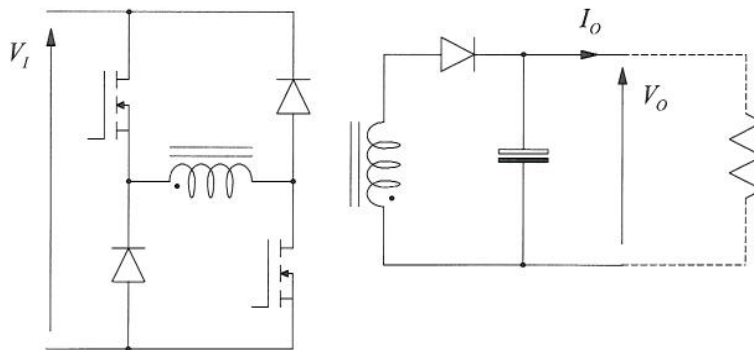

Figure Q1.1 A double-switched flyback converter
1. The circuit in Figure Q1.1 is a type of Flyback converter.